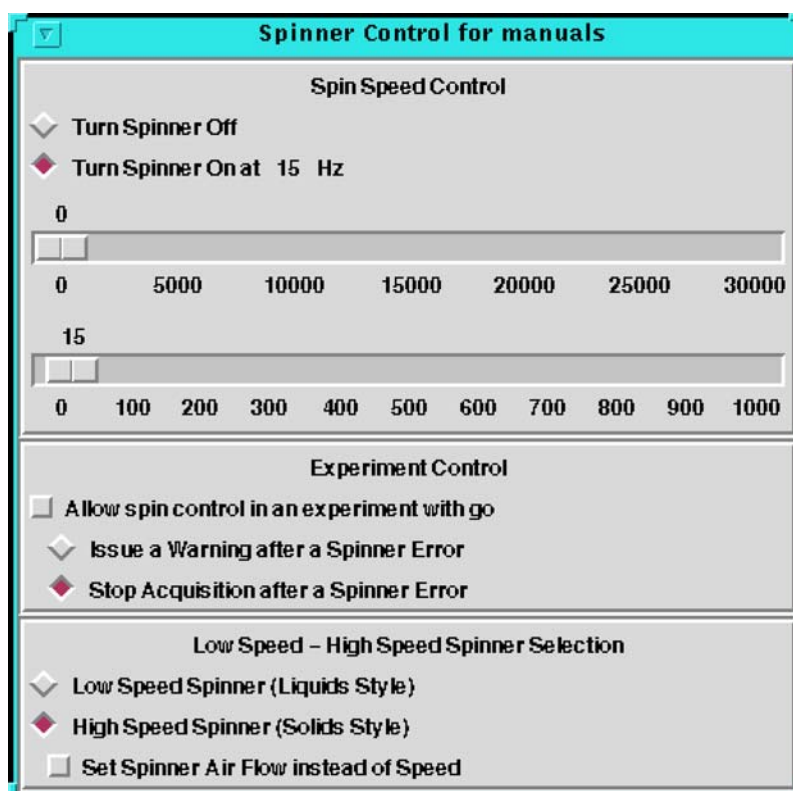

Figure 13 Spinner control window
- 3 Enter spinner in the VNMR input window to open the Spinner Control window (see Figure 13).